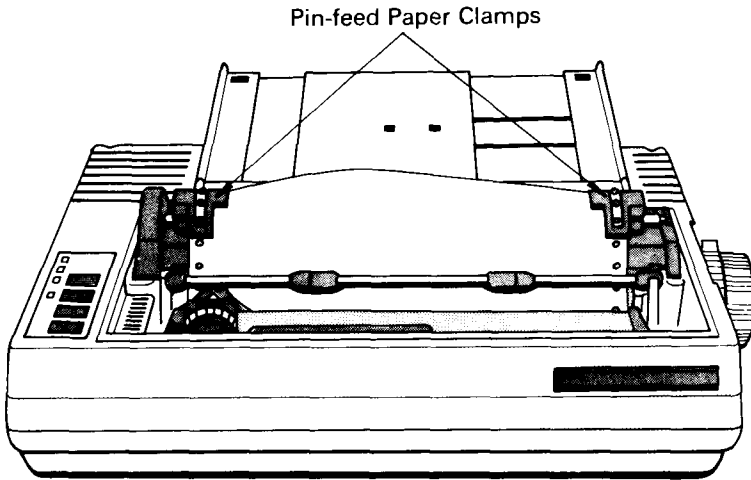

Figure 9. Front View.
5. Adjust the pin-feed paper clamp positions for the width of the paper. Refer to Figure 9.